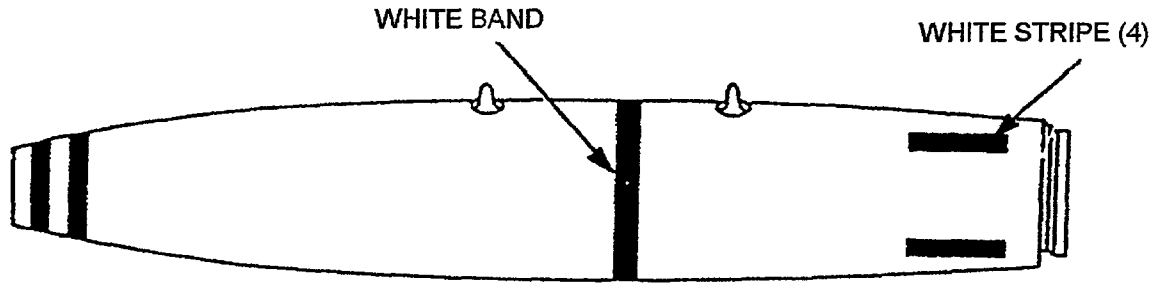

Figure 5-9A. Identification Removal
- Bomb Mk 83:** Using PPE per MSDS, cover the four white stripes and white band located on the bomb (Figure 5-9A) with olive drab paint .
- Bomb BLU-110A/B:** Using PPE per MSDS, cover the four white stripes and white band located on the bomb (Figure 5-9A) with gray paint .